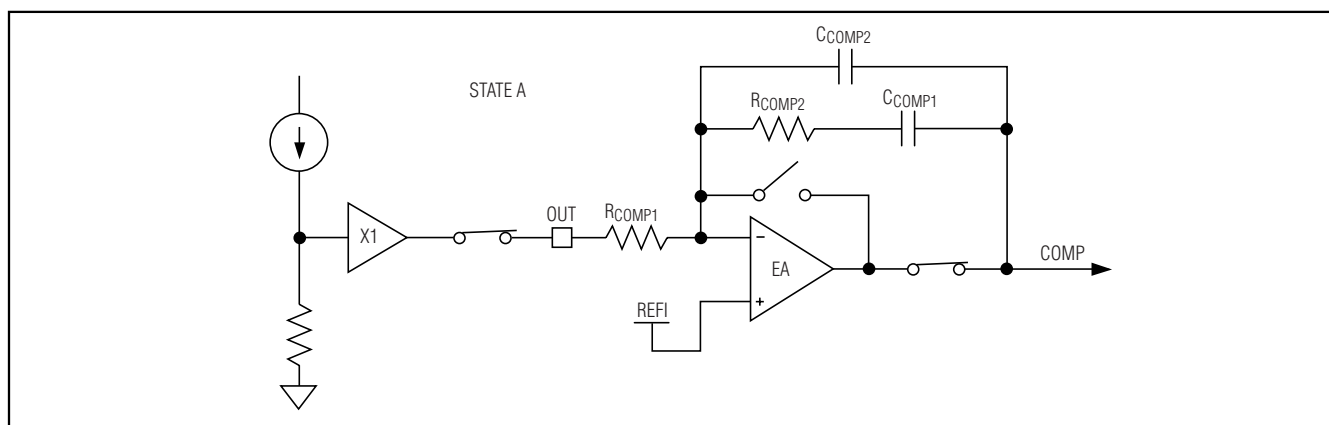
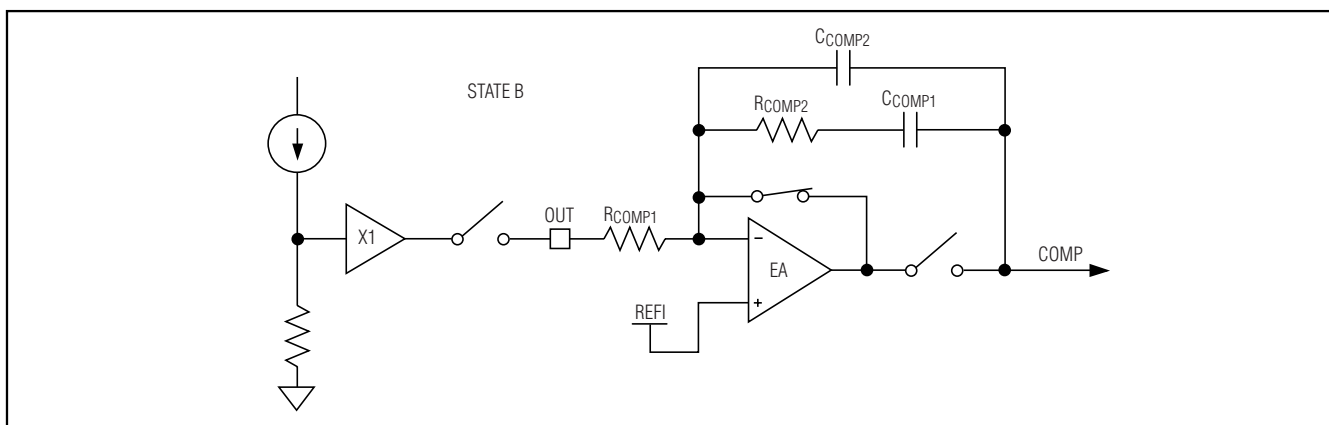
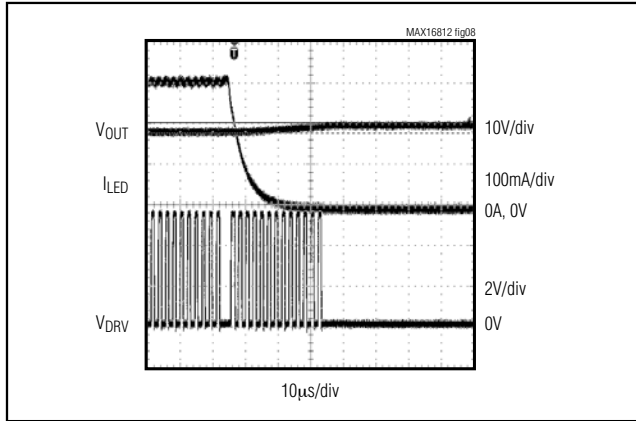

Figure 4. Internal Error Amplifier Connection (Dimming Signal High)
Figure 5. Internal Error Amplifier Connections (Dimming Signal Low)
Figure 8. LED Current, Output Voltage, and DRV Waveforms when DIM Signal Goes Low
The MAX16812 includes a built-in voltage-error amplifier, which can be used to close the feedback loop. The internal LED current-sense output signal is buffered internally and then connected to CS_OUT through an internal switch. CS_OUT is connected to the inverting input (FB) pin of the error amplifier through a resistor. See Figures 4 and 5. The reference voltage for the output current is connected to REFI, the noninverting input of the error amplifier. When the internal dimming signal
is low, COMP is disconnected from the output of the error amplifier and CS_OUT is simultaneously disconnected from the buffered LED current-sense output signal (Figure 5). When the internal dimming signal is high, the output of the op amp is connected to COMP and CS_OUT is connected to the buffered LED current-sense signal at the same time (Figure 4). This enables the compensation capacitor to hold the charge when the DIM signal has turned off the internal switching MOSFET gate drive. To maintain the charge on the compensation capacitors CCOMP1 and CCOMP2, the capacitors should be of the low-leakage ceramic type.
PWM dimming can also be achieved by connecting TGRM to a DC voltage less than V_{REF} and applying the PWM signal at DIM. The moment the internal dimming signal goes low, gate drive DRV to the internal switching MOSFET is turned off. The error amplifier goes to state B (see the *Internal Error Amplifier* section and Figures 4 and 5). The peak current in the inductor prior to disabling DRV is I_{LX} . Gate drive DGT to the external dimming MOSFET is held high. Then after a switchover period, gate voltage V_{DGT} on the external dimming MOSFET is linearly controlled to reduce the LED current to 0. The fall time of the LED current is controlled by an internal timing circuit to 5μs for the MAX16812. During this period, the gate (DRV) to the internal switching MOSFET is enabled. After the fall time, the gate drive to the external dimming MOSFET is turned off and the gate drive to the internal switching MOSFET is still held high after the switchover period. The peak current in the inductor is controlled at I_{LX} . Then after a time period of 20μs, the gate drive is disabled. The scope shots in Figures 8–11 show the dimming waveforms.
When the DIM signal goes high, the LED current is gradually increased to the programmed value. The rise time of the LED current is controlled to 5μs for the MAX16812 by controlling the voltage on DGT. After the rise time, an internal sensing circuit monitors the voltage across the drain to the source of the external dimming MOSFET. The LED current is now controlled at the programmed value by a linear current regulating circuit. Once the voltage across the drain to source of the dimming MOSFET drops below 0.5V, the reference for the linear current regulating circuit is increased to 1.1 times the programmed value. The gate drive (DRV) to the internal switching MOSFET is enabled and the error amplifier is returned to state A (see the *Internal Error Amplifier* section and Figures 4 and 5).